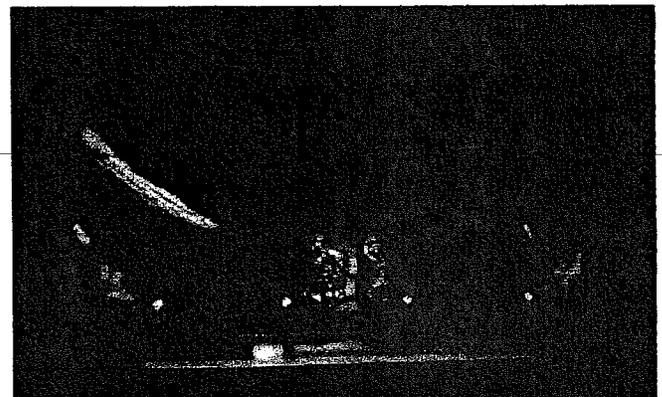

Figure 8.10 Place Top Log on Left Side
- Place top log on the front left log and the top left log as shown in Figure 8.10.